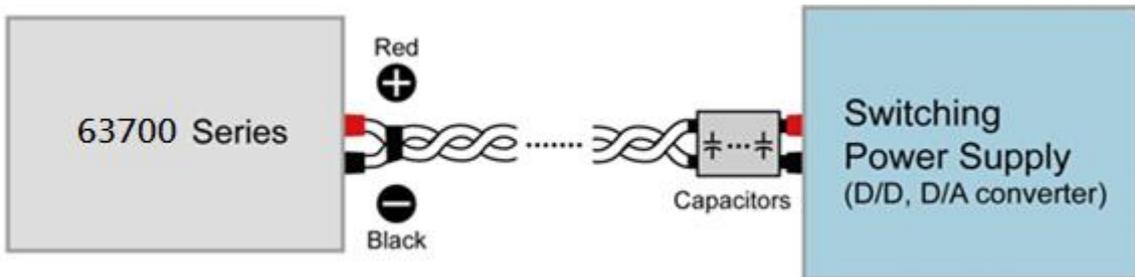

Figure 1-1
1. For applications with switching power supply and cable lengths greater than 20cm, it is recommended the cables be twisted and parallel capacitance be added to prevent oscillations, see Figure 1-1.